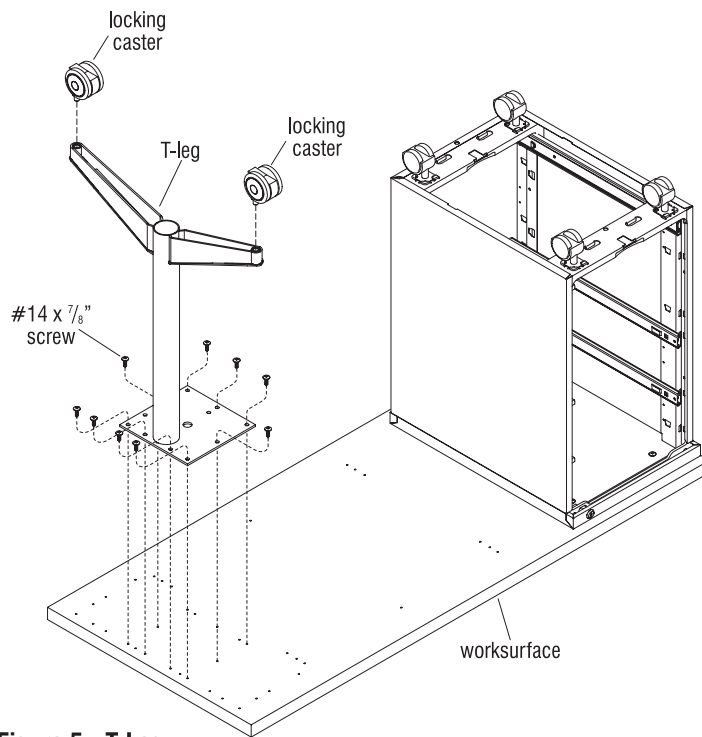

Figure 5 - T-Leg
12. If a T-Leg is specified, position the leg as illustrated to the center end of the worksurface opposite of the pedestal. Align the mounting holes of the leg to the pre-drilled holes of the worksurface and secure using nine #14 x $\frac{7}{8}$ " screws. Use a $\frac{3}{4}$ " open end wrench to tighten locking casters to each foot of the leg (Figure 5).
14. If a perforated steel modesty panel is specified, position the steel modesty panel as illustrated at the edge of the worksurface, opposite of the user side. Align the mounting holes of the steel modesty panel to the three pre-drilled holes of the worksurface and secure using three #14 x 7/8" screws (Figure 5).